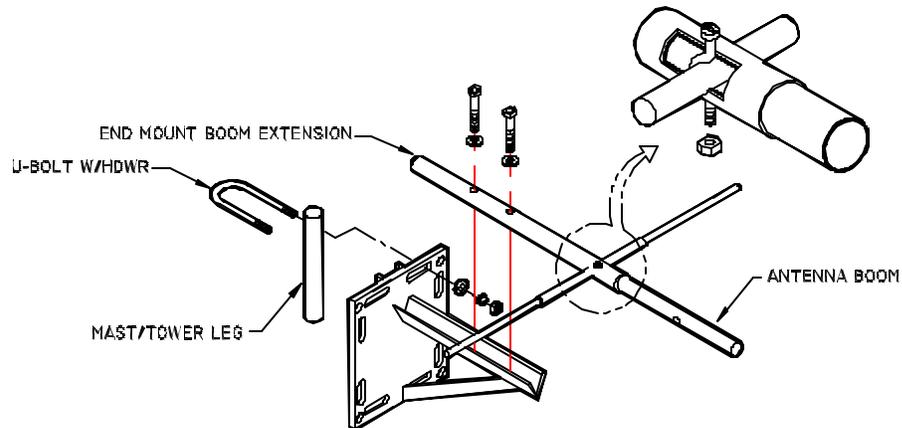

Figure 3
- a. Secure the crossarm tube to the antenna support brace mounting bracket. See Figure 3. Attach an antenna brace to the crossarm tube with the end bend down. Connect the other antenna brace in the same way. Attach both antenna braces to the same hole in the antenna boom.